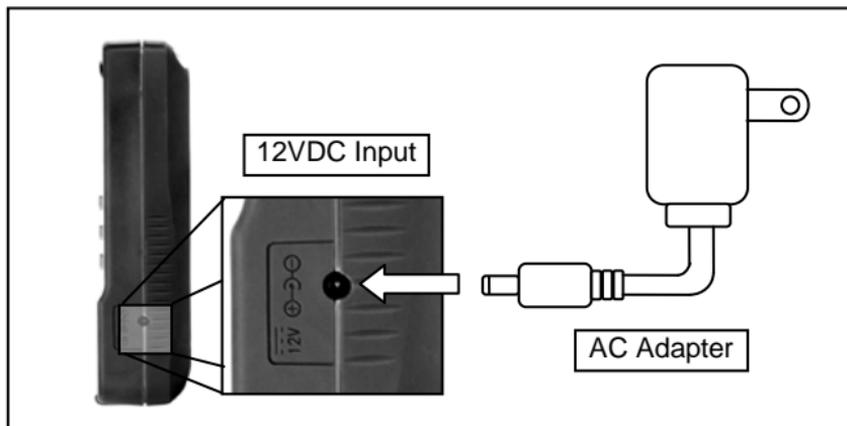

Figure 5 - Connecting AC Adapter to Meter
2. Connect the AC adapter connector into the right side panel of the instrument. See Figure 5 below.